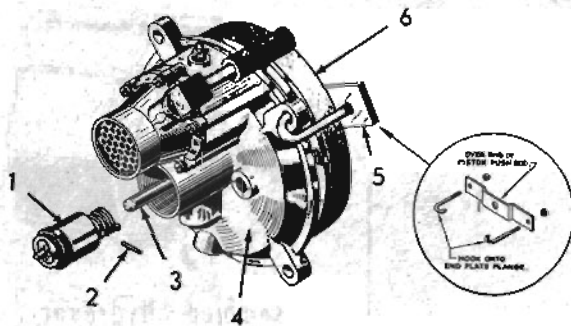
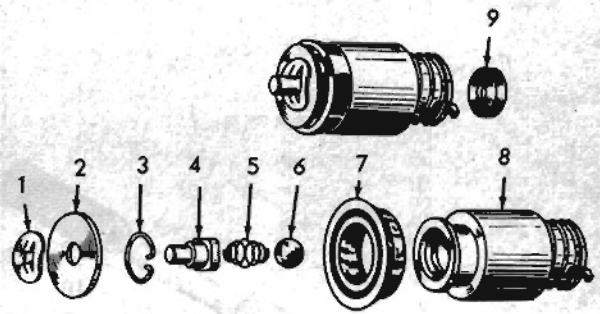

FIG. 33
FIG. 34
Compress the piston return spring by pressing down on the end plate (4, Fig. 33). Two wire hooks and plate (see inset) can readily be made to hold the piston in position. Remove the hydraulic piston assembly (1) from the push rod (3) by sliding the snap ring or retainer spring of the piston assembly back and removing the pin (2). The hydraulic piston assembly may be disassembled if necessary. Remove the speed nut (1, Fig. 34) and washer (2). Remove the piston cup (7). Then remove the snap ring (3), spring retainer (4), spring (5), and ball (6). Remove the cushion (9). The balance of the piston should not be further disassembled.